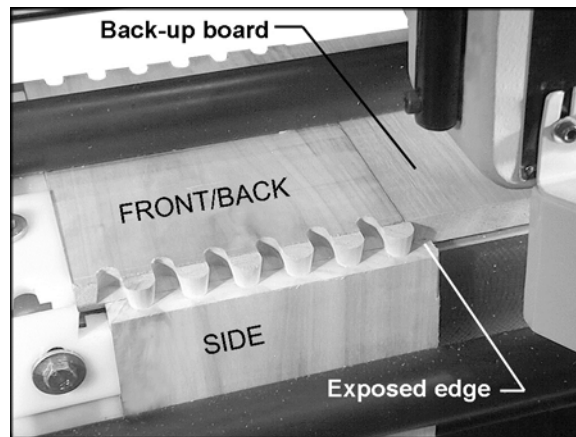

Figure 29
As noted previously, when the SIDE and FRONT/BACK pieces are inserted into the machine, they are offset a bit so they’ll match correctly when assembled. In other words, the SIDE will rest slightly to the right of the FRONT/BACK in the machine. This leaves the right edge of the SIDE exposed without the “chipbreaker” effect that the FRONT/BACK provides for the rest of the SIDE (see Figure 29). This may result in an unsatisfactory cut at the edge of the SIDE.
This problem is resolved simply by taking a 2-inch-plus wide “back-up” board, of the same thickness as your workpiece, and clamping it horizontally next to the FRONT/BACK piece so that it backs up the exposed edge of the SIDE, as shown in Figure 29. You can use this piece over and over again.
3. Plywood has a tendency to chip out on exposed edges. A back-up board should be used as needed (see Figure 29).